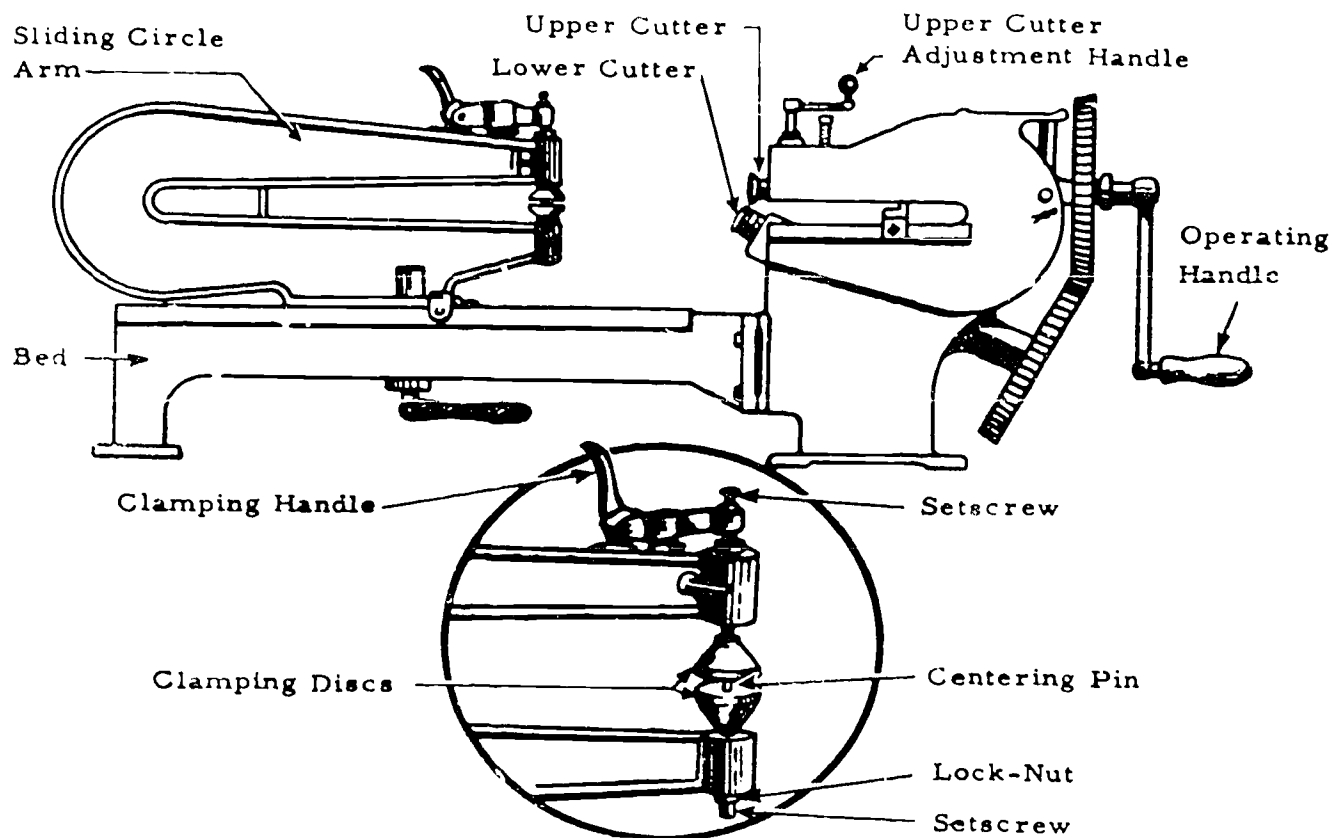

Figure 1-8. Ring and circle shears.
**Ring and Circle Shears.** The basic construction of ring and circle shears, illustrated in figure 1-8, is similar to that